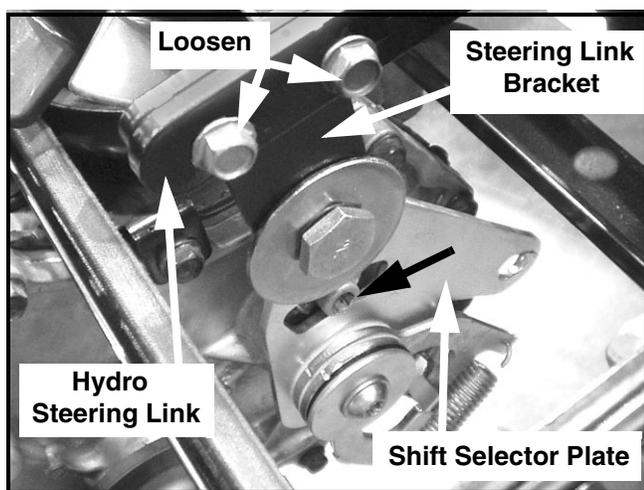

FIGURE 4
10. At the hydro that is exhibiting creep, loosen the two self-tapping screws securing the hydro steering link to the "T" shaped steering link bracket at the shift selector plate. See Figure 4.
11. Using a 1/4" allen wrench, loosen the socket head cap screw located in the slot of the shift selector plate. See Figure 4, black arrow.